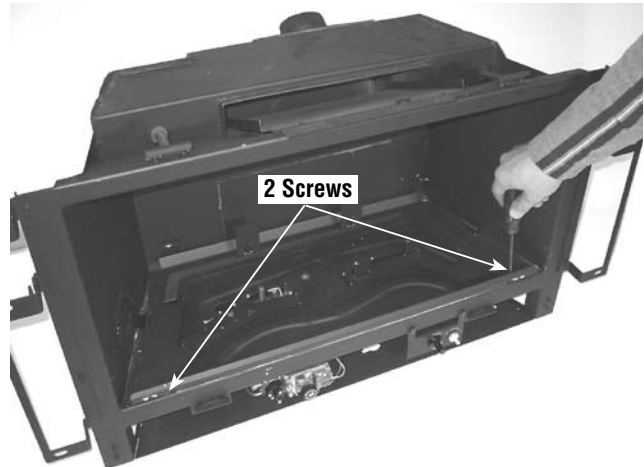

Figure 7
1. Remove log rack (2 screws) and install rear log on retainer. See **Figures 7 and 8**.